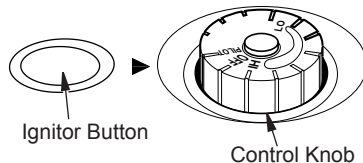

Figure 18 - Control Knob in the OFF Position
- Wait five (5) minutes to clear out any air. Then smell for gas, including near the floor. If you smell gas, STOP! Follow "B" in the safety information, page 15. If you do not smell gas, go to the next step.
- Turn control knob counterclockwise ↺ to the PILOT position. Press in control knob for five (5) seconds (see Figure 18).